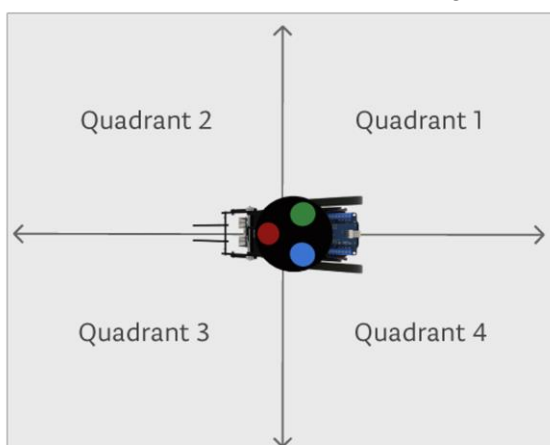

Fig.22: Quadrants of the Robot
- Determine which quadrant (Fig. 22) the object/location is in